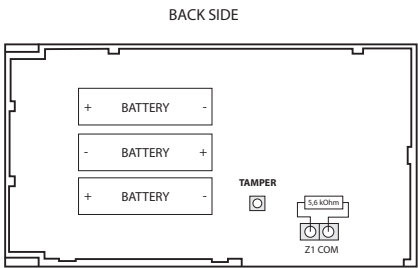
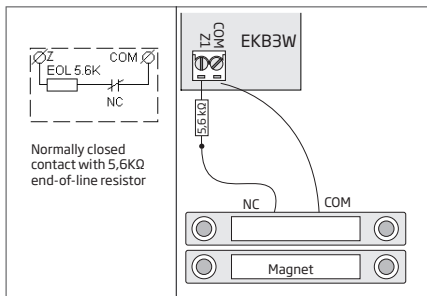

Fig. No. 2
Fig. No. 4
3. Connect a sensor and the resistor across **Z1** and **COM** terminals in accordance with zone connection Type 1 or Type 2 (see Fig. No. 4). As keypad zone Z1 is disabled by default, it can be enabled by SMS text message, *ELDES Configuration Tool* software, EKB2 (only for ESIM364), EKB3 (only for ESIM364) and EKB3W keypad. Keypad zone Z1 must be enabled and resistor connected even if the tamper-switch alone is required (see Fig. No. 2).
ATTENTION! Before fixing the keypad into the holder, please, make sure that the tamper is properly pressed (see Fig. No. 2).